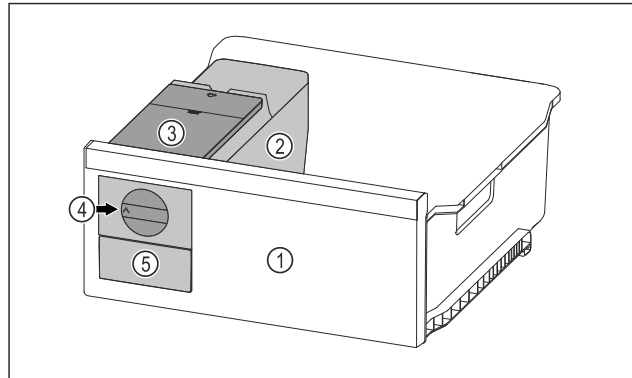

Fig. 123 Example illustration
- Turn the rotary knob Fig. 123 (4) clockwise as far as it will go.
- Ice cubes fall from the ice cube tray into the ice cube drawer Fig. 123 (5).